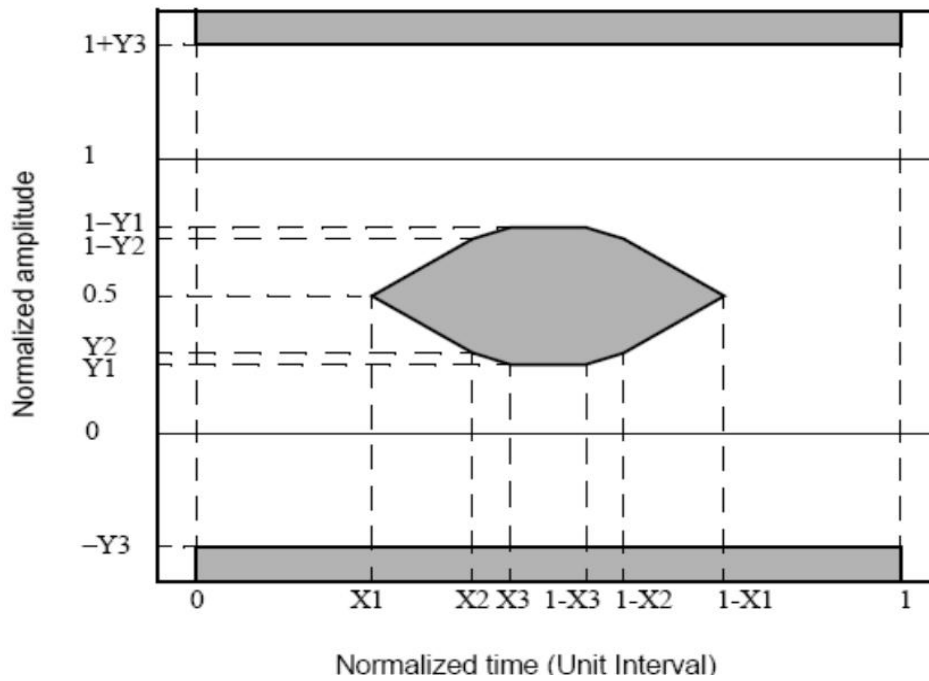

Figure 2.Eye Mask
2. Hit ratio of 5e-5, per IEEE; See Figure 2 below.